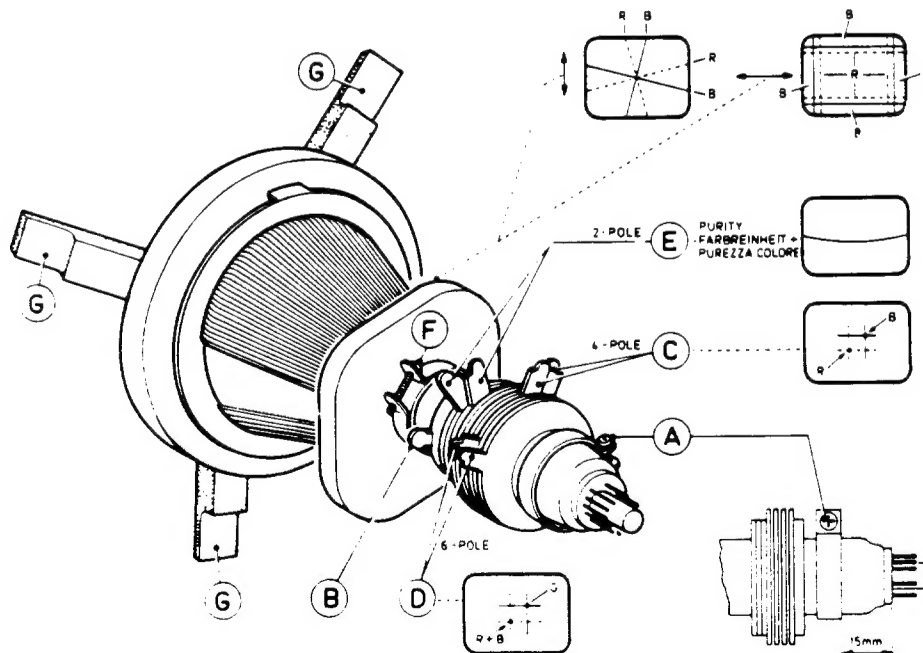

Fig. 3
- The colour purity and convergence adjustments described hereafter need only to be carried out if a completely new setting is required or if a new picture tube has been fitted. In other cases, for example after replacing the deflection unit, it will not usually be necessary to remove the rubber wedges (G in figure 3). Corrections by means of the multi-pole unit will then suffice.
- Focusing adjustment described in item 1.5 must be done prior to picture settings.
2.1 Colourpurity, see figure 3
2.2 Staticconvergence, see figure 3